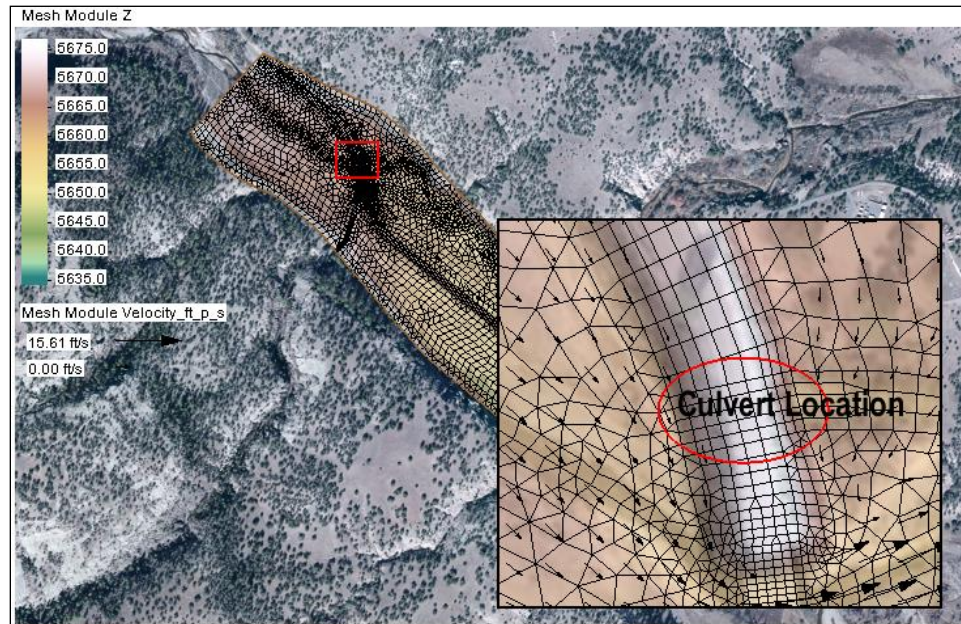

Figure 2 Culvert location
The culvert structure will be created near the bridge location (as shown in Figure 2). Culvert structures are defined by creating two boundary condition arcs, one on the upstream face and one on the downstream face of the structure. The boundary condition arcs are then defined as a culvert structure and the attributes of the culvert are defined in the HY-8 culvert definition dialog.
7. Use the **Zoom** tool to zoom into the culvert location near the bridge (Figure 2).